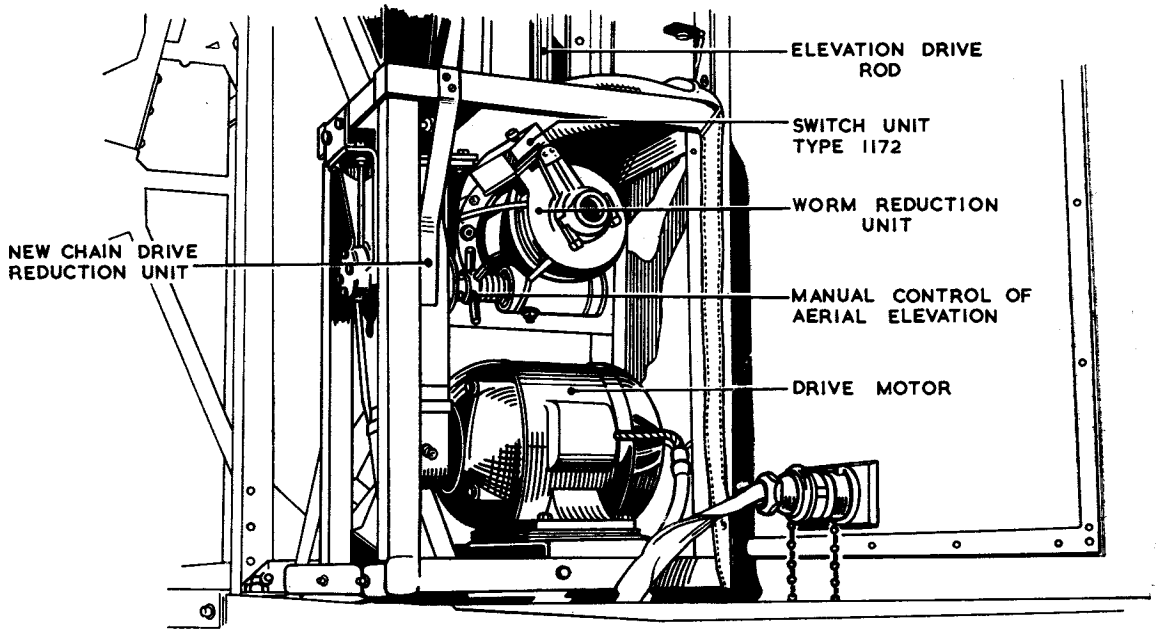

Fig. 14. Elevation gearbox
- (1) Close the ELEVATION CONTROL switch (R.V.467 distribution board).
- (2) Close the master switch (inside R.V.461C).
- (3) Close the elevation switch (display unit Type 5, console 3).
52. Any one of the three switches may be used to stop tilting, but that on the display unit will bring the aerial to rest at a pre-determined angle of elevation which depends on the setting of switch unit Type 1172 attached to the motor shaft. Since the motor cannot stop instantaneously, because of the inertia of the system, it will be necessary to experiment with the switch unit setting until a point is reached so that the aerial stops at the required angle of tilt (usually minimum). Two knurled screws must be slackened in order to adjust the position of the striking area of the switch unit (*fig. 14*). Modification 405/1 may have been done on the equipment. This involves replacement of switch unit Type 1172 by switch unit Type 902 and gives elevation strobe facilities (*para. 114*).